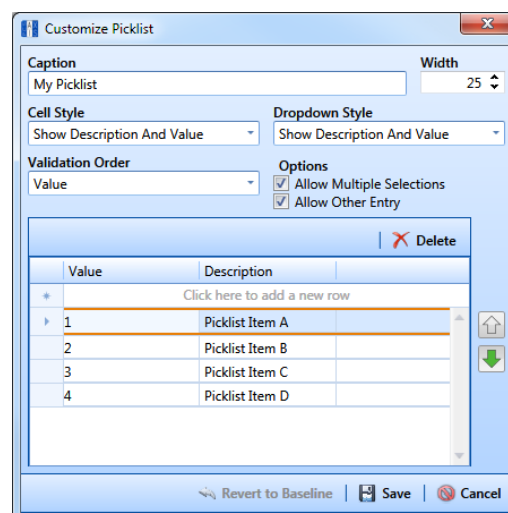

Figure 2-32. Customize Picklist
- 4 Click  **Picklist** in the toolbar to open the *Customize Picklist* dialog box (Figure 2-32).
- a** Click the message *Click here to add new row* to add an empty row of fields for data entry (Figure 2-32, page 65).